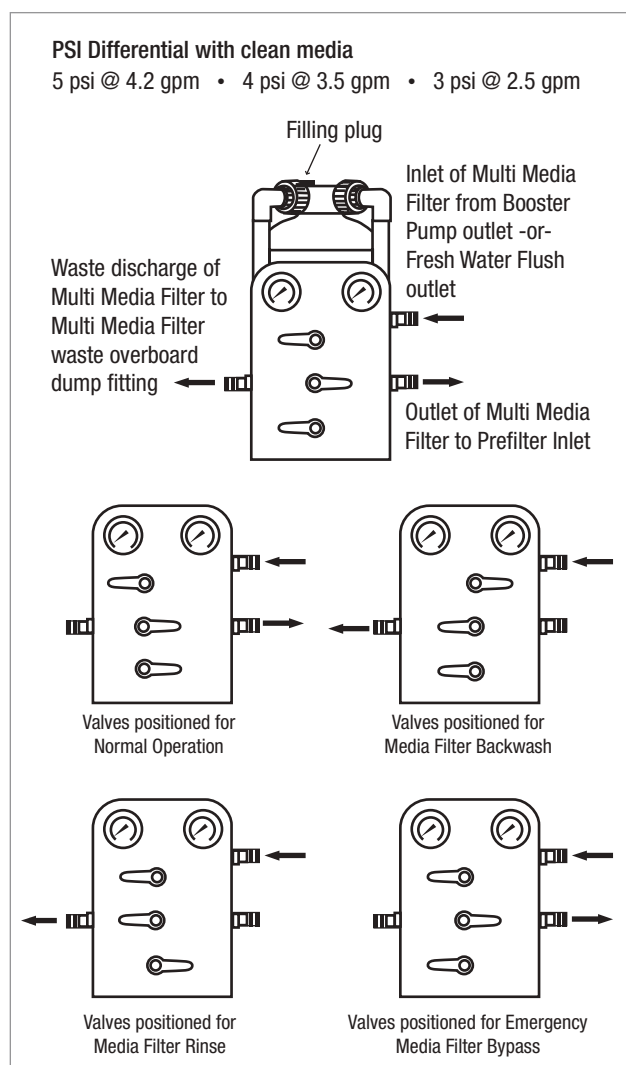

Figure 8a: Valve Positioning of the Multi Media Filter during 4 separate modes of Operation.
- j) Position the Multi Media Filter Valves to Normal Operation. Refer to Figure 8a, page 8-7.